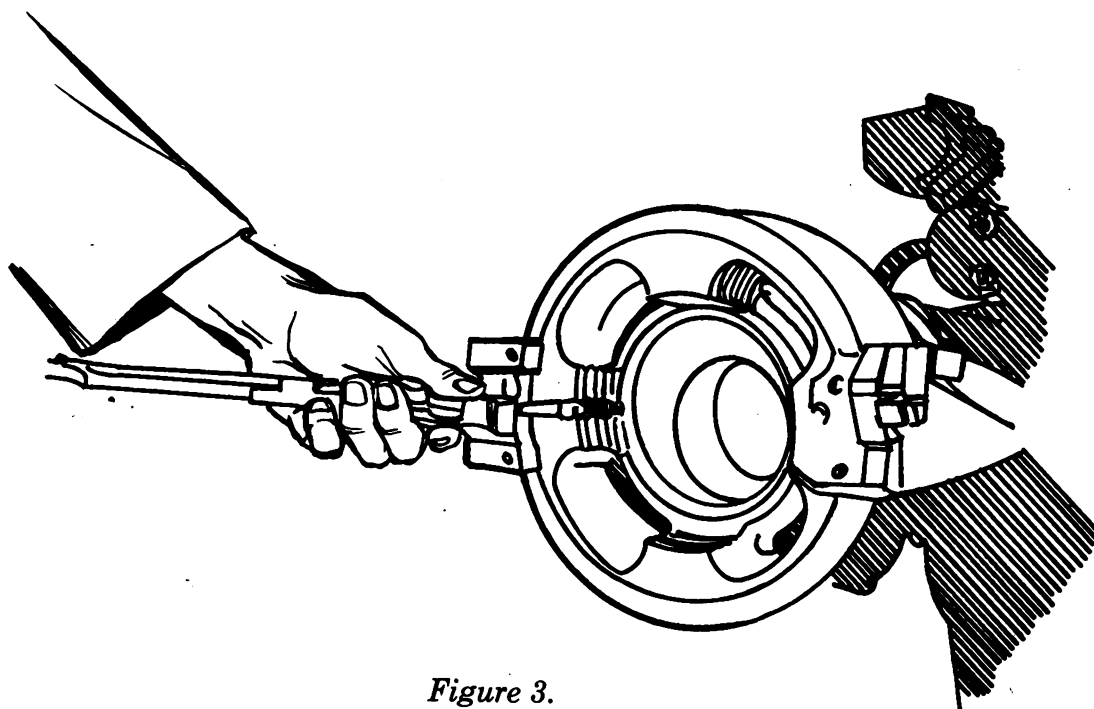

Figure 3.
(4) Removal of firing pin assembly. Using the spotting gun adjusting wrench, remove the firing pin housing cap; then raise slightly and remove the extractor assembly. Lift out the firing pin spring. Turn the breechblock and hinge assembly over and allow the firing pin to fall out. Place the breechblock and hinge on a flat surface.
(5) Removal of hinge and sear. Rotate the hinge about 45 degrees to the locked position. Pull the sear out about 2 inches, or until it clears the firing pin housing. Lift the hinge and sear off the breechblock. Remove the sear from the hinge.
(6) Removal of cam plate. Remove the cocking cam. Lift the cam plate from the firing pin housing and breechblock assembly.
(7) Removal of firing pin housing. Lift the breechblock from the firing pin housing.
(8) Removal of coupling ring assembly. Take out the coupling ring roller. Remove the coupling ring by inserting the spotting gun adjusting wrench into a coupling ring roller recess and prying out.
(9) Removal of cartridge case detent. Press the forward end of the detent into its recess in the vent bushing. At the same time pry it out of its recess by using the spotting gun adjusting wrench as a lever against the fulcrum end of the detent (figure 3).